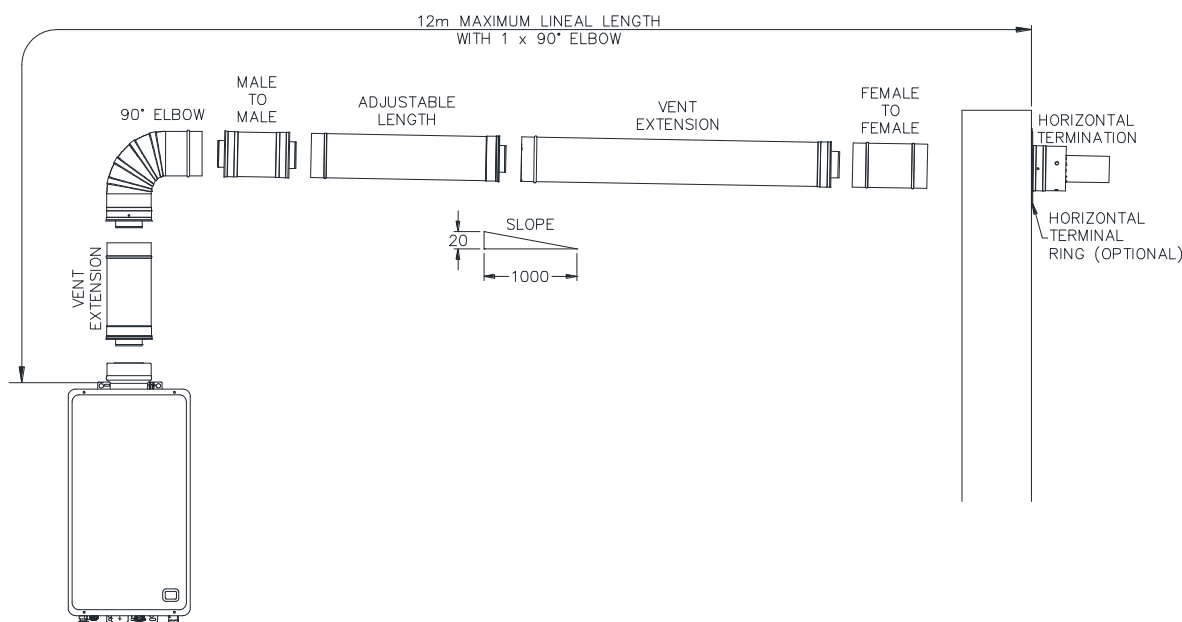

Figure 19- Typical Installation – Horizontal Terminal with One Bend
- Use Male to Male and Female to Female Adapters to reverse the direction of flue insertion where three or more sections of flue are used in a horizontal flue run and the flue drains toward the flue terminal. Refer to Figure 19- Typical Installation – Horizontal Terminal with One Bend on page 47.